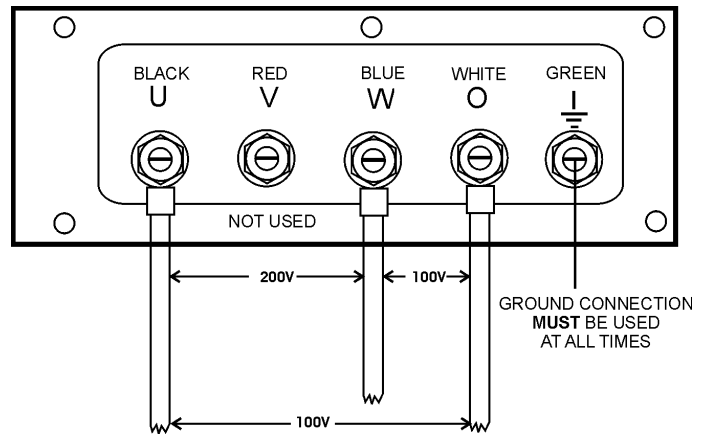

Figure 30. UVWO Terminal Lugs 1Ø-200V/100V Connections
2. Connect the load wires to the **Output Terminal Lugs** as shown in Figure 30.